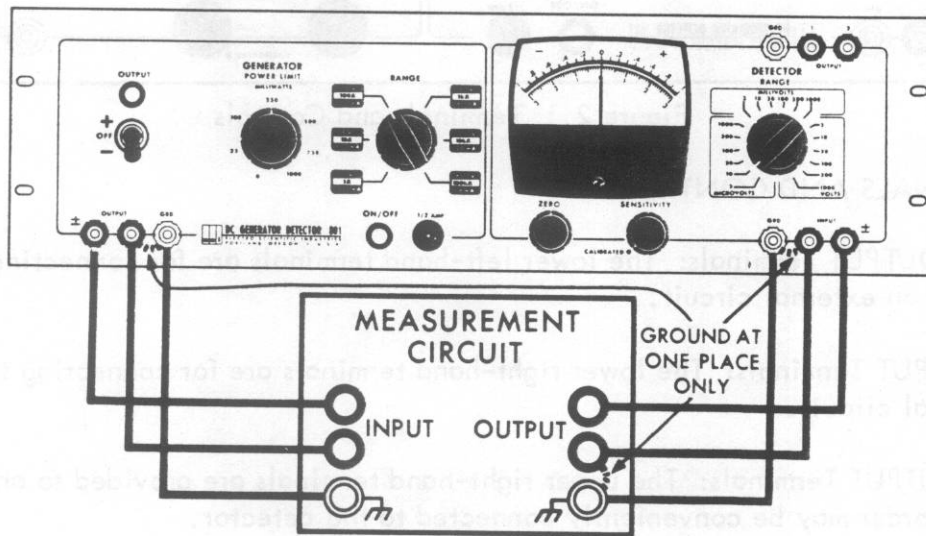

Figure 2.2 Basic Operating Procedure
2. Connect the measurement circuit to the generator OUTPUT and detector INPUT terminals as shown in Figure 2.2.
Connect the positive terminal of the generator to the generator OUTPUT terminal and the negative terminal to the generator GROUND terminal. Adjust the generator output to the standard value as shown in Figure 2.2, then adjust to find the null point of the bridge or divider. Following the basic operating procedure of section 2.2, make the deflection measurements.